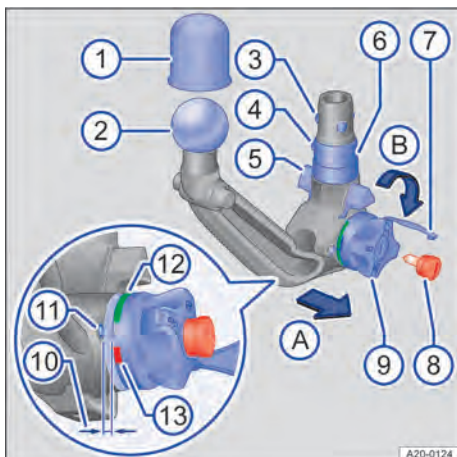

Fig. 162 Overview: Detachable ball coupling.
4. Check to ensure that the mounting, handwheel → Fig. 162 ⑨, shank ⑥ and the retaining balls ③ of the ball coupling are all clean and undamaged → ①. Clean if necessary.
1. Grasp the ball coupling underneath the ball coupling → Fig. 162 ② with one hand.
2. Remove the lock cap → Fig. 162 ⑦ from the lock and insert the key ⑧ into the lock.
3. Turn the key → Fig. 162 ⑧ anticlockwise.
4. Use your other hand to pull out the handwheel → Fig. 162 ⑨ in the direction of arrow A and hold it in this position → ▲.
5. Turn the handwheel → Fig. 162 ⑨ in the direction of the arrow B until it engages. The ball coupling is now pre-tensioned. The red marking ⑬ on the handwheel must point towards the white marking ⑪ on the ball coupling. The handwheel protrudes clearly from the ball coupling. The gap between them is approximately 4 mm ⑩.
6. Check to see whether all retaining balls → Fig. 162 ③ can be pressed fully into the ball coupling shank ⑥.
2. Push the ball coupling firmly upwards until it engages. Both centring devices → Fig. 162  must engage in the mounting points on the vehicle.
3. The handwheel → Fig. 162  has now returned to its original position. There is no longer a gap between the handwheel and the ball coupling.
4. Turn the key → Fig. 162  in the handwheel clockwise and remove it.
5. The handwheel → Fig. 162  may now no longer be pulled out.
6. Fit the lock cap → Fig. 162  on the lock and place the key in the stowage box.
1. The green marking → Fig. 162  on the handwheel must point towards the white marking on the ball coupling .
2. The handwheel → Fig. 162  must rest on the ball coupling and there must be no gap between them.
3. Shake or pull down on the ball coupling → Fig. 162 with some force. It must sit firmly in the mounting → .
4. The lock must be locked and the key → Fig. 162  removed.
5. The lock cover → Fig. 162  must cover the lock in the handwheel.
- Never use the towing bracket if the smallest diameter of the ball → Fig. 162  is less than 49 mm (1.9 in).